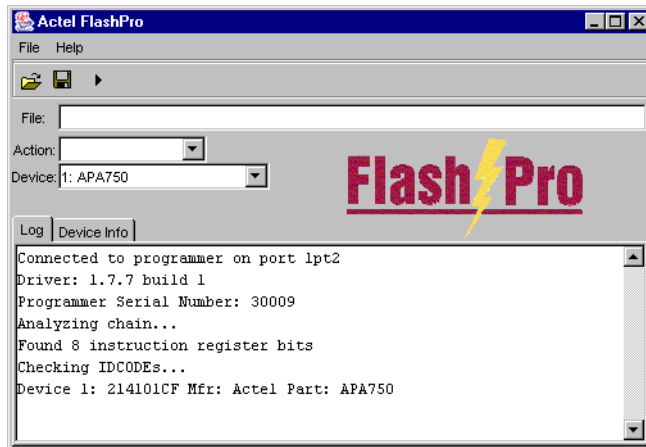

Figure 2-14. FlashPro: Analyzing Chain
1. From the *File* menu, click *Analyze Chain*. Chain details appear in the Log window, as shown in Figure 2-14. If you encounter any failures, please refer to “Error Messages & Troubleshooting Tips” on page 89 for more information.